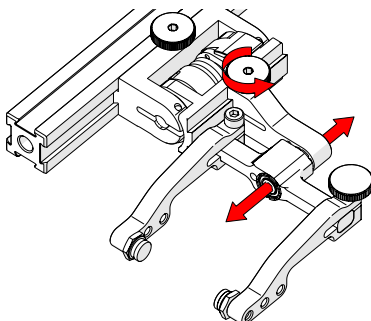

Fig. 45 - Adjust swing arm
3. Use the swing arm knob to position the swing arm (Fig. 45).
**TIP:** The swing arm is typically used to adjust TOFD center-to-center distance relative to the phased array probes on a four probe configuration (Fig. 45).